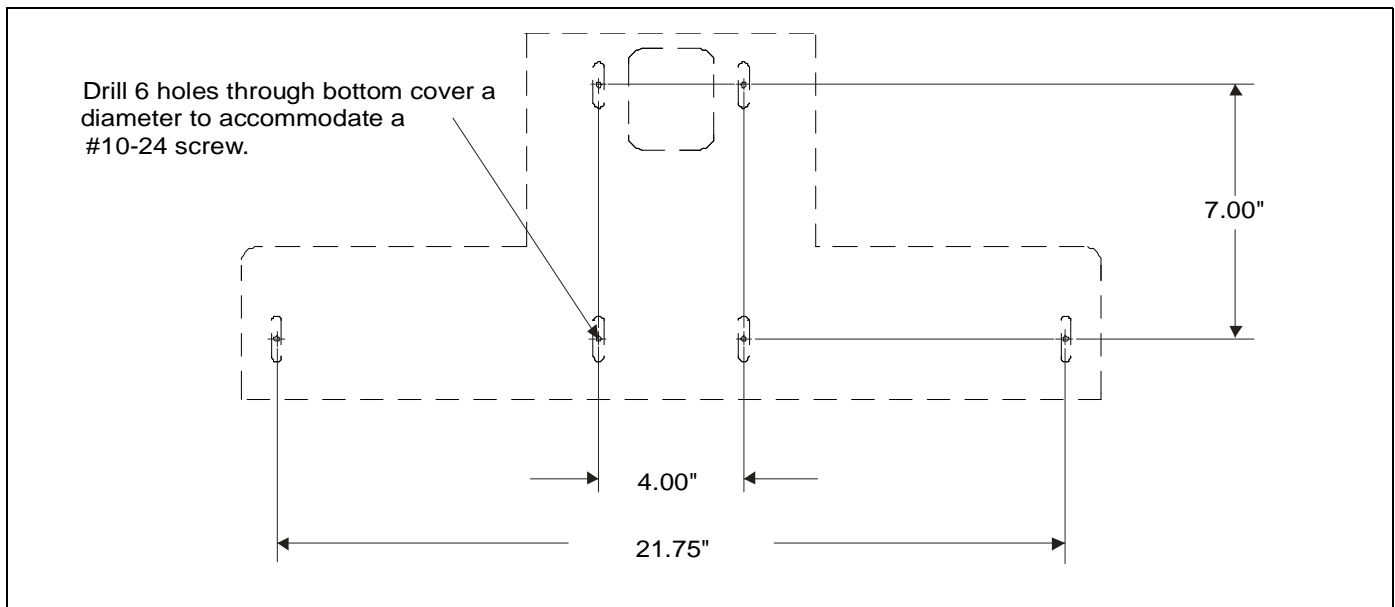

Figure 24
4. Prepare bottom cover by cutting to appropriate size, allowing for clearance between cover and opening in ceiling, and drilling 6 through holes using the dimensions and pattern in the figure below. (See figure 24)